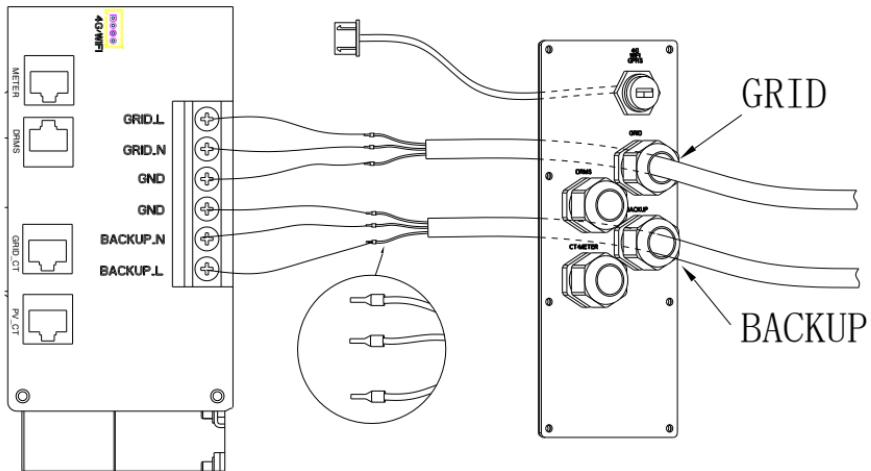

Fig.4.4 AS1 device wiring terminals
Step 2: After the cover plate removed, please lead one cable (Recommend conductor core size: 2.5mm²) through the waterproof nut (GRID) and then use E6012 wire crimps to connect the wires to the terminal of GRIDL, GRIDN and GND2 properly (refer to Fig.4.4);
Step 3: Please lead another cable (Recommend conductor core size: 2.5mm²) through the waterproof nut (BACKUP) and then use E6012 wire crimps to connect the wires to the terminal of BACKUP-L, BACKUP-N and GND1 accordingly (refer to Fig. 4.4);